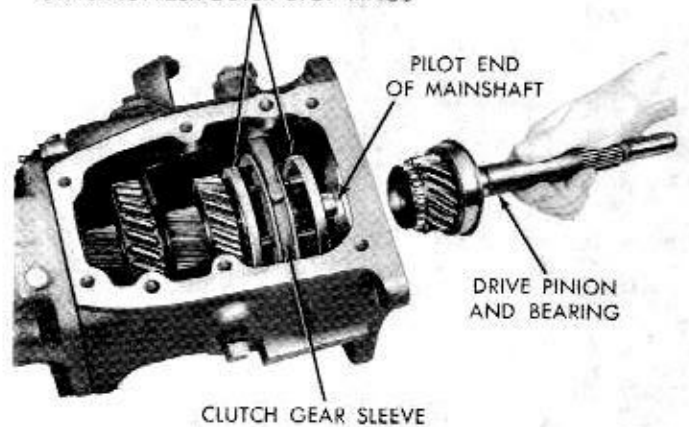

Fig. 18—Removing or Installing Drive Pinion
(3) Grasp pinion shaft and pull assembly out of case slightly, then slide synchronizer front inner stop ring from the short splines on pinion as assembly is being removed from the case (Fig. 18).